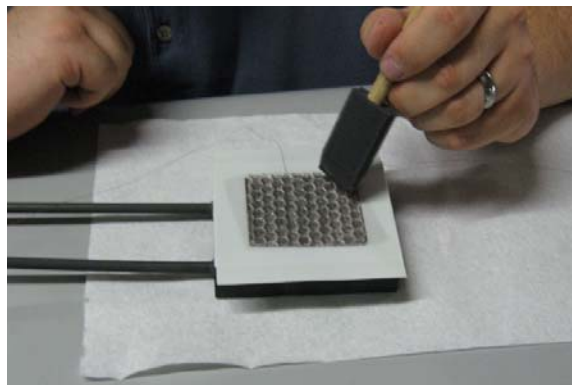

Figure 12
13. Carefully holding the cell in place again, paint over the Pt mesh with cathode ink (Figure 12)